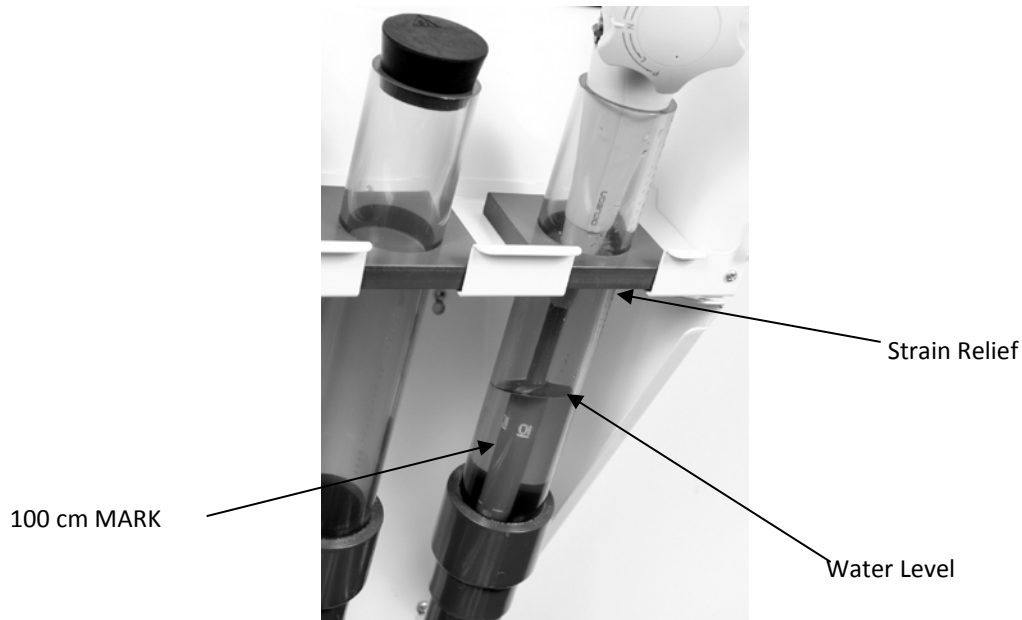

Figure 8. Establishing Maximum Fill Level
5. With the probe fully inserted, the water level should be mid-way between the 100cm mark and the end of the strain relief. Add or subtract water as needed to achieve this level. (See Figure 8.)